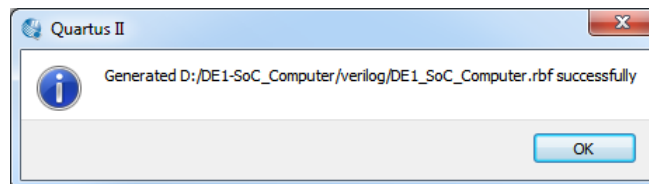

Figure 39. The .rbf file successfully generated.
7. We are now ready to generate the .rbf file. Click `Generate`. You should see the success message shown in Figure 39.